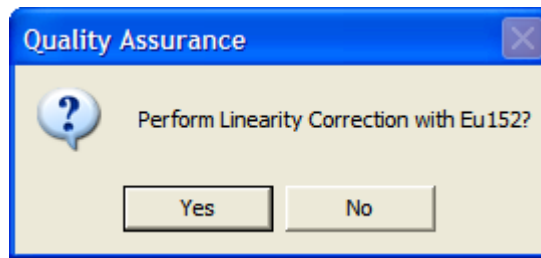

Figure 5-6
- Next, the screen appears as shown in Figure 5-6, prompting you to perform Linearity Correction using Eu152. This step, though optional, is highly recommended for fine-tuning your system.